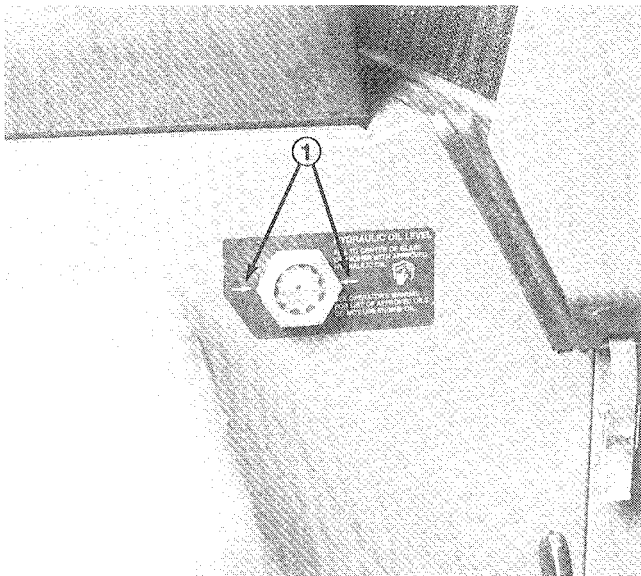

Figure 6
1. Look into sight glass (Fig. 6). Oil level should be even with arrows when checking warm oil. Oil will be 1/4 to 1/2 inch below arrows when cold.